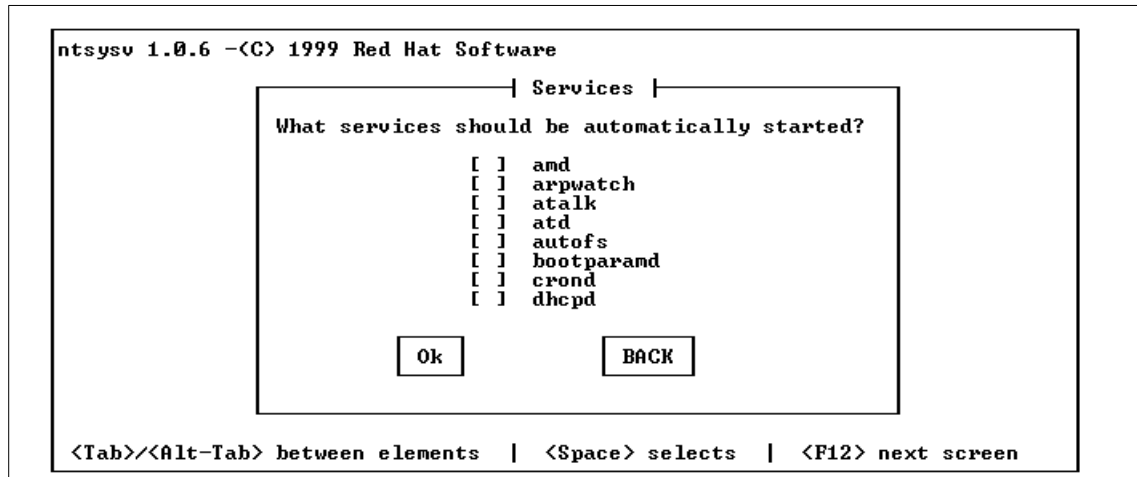

Figure 45. Services Selection
22. You can select services to run as daemons as shown in Figure 45 on page 174. By default, ftpd and telnetd are not configured.